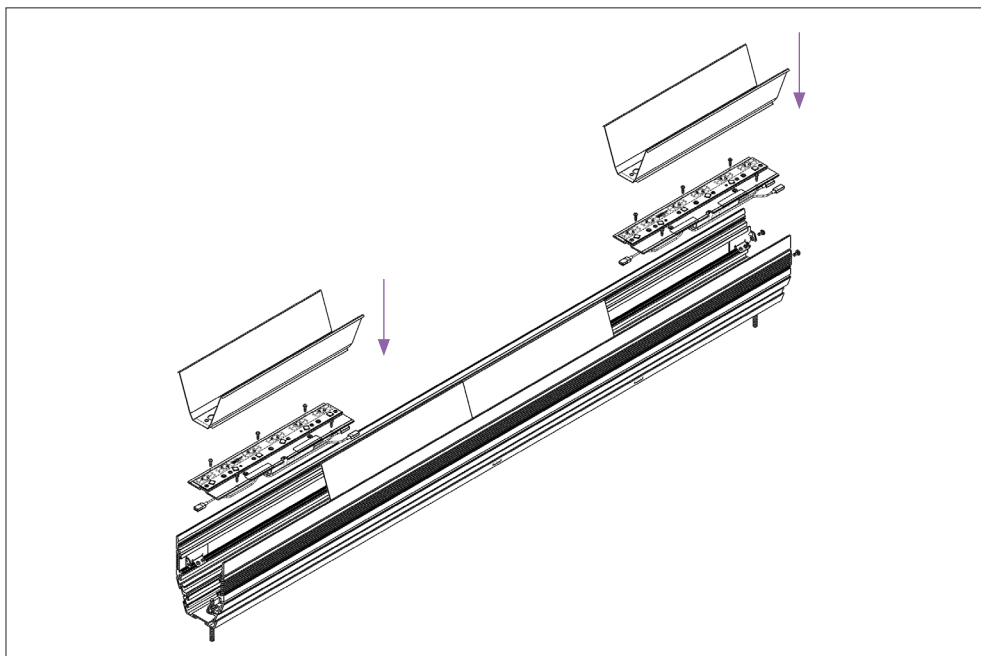

fig. 16
6. Reattach the light engines and reflectors (see fig. 16). To reattach:
Note: L4R does not support multi-drop or home-run wiring. (See fig. 16.)